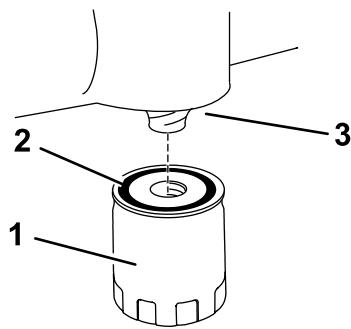

Figure 35
18. Turn the oil filter clockwise until the rubber gasket contacts the pad, then tighten the filter an additional 2/3 to 1 turn (Figure 35).